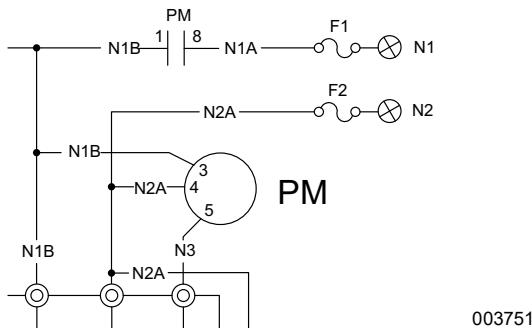

Figure 1-30. Power Monitor Relay Schematic
1. Generator battery voltage (approximately 12 VDC) is available to the transfer relay coil from the generator controller, via Wire 194 (15B on some units prior to Nexus and Evolution) and relay terminal as defined in Table 1-3 or Figure 1-30.
See Figure 1-30. In 3-phase applications, a Power Monitor (PM) relay in the transfer switch ensures correct phase rotation and voltages across all three phases. N1A and N2A are the sensing wires to the generator. If the PM senses low voltage on any phase, it will open Pin 1 from Pin 8. If Utility voltage remains good, the relay stays energized and closes the contact between Pin 1 and Pin 8.